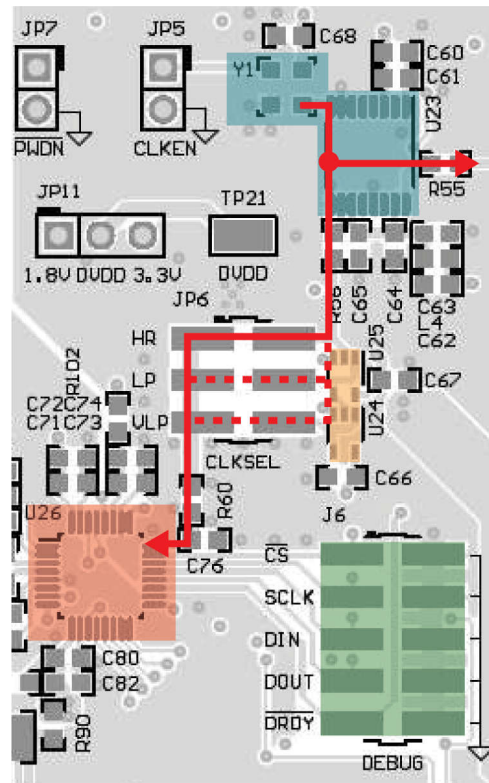
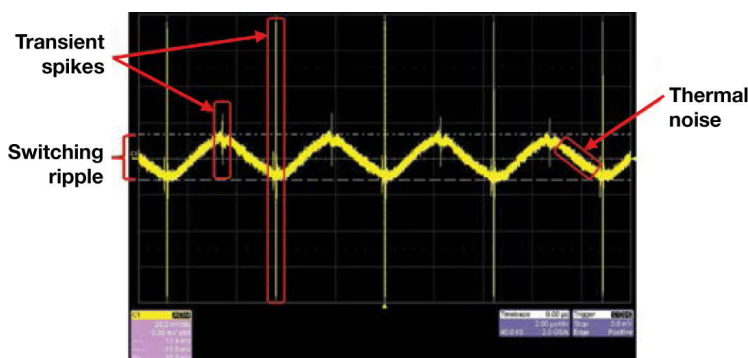

Figure 56. Example clock layout.
Figure 57. SMPS noise (transients, ripple and thermal noise).
When designing the PCB layout for your clock source, take care to keep the clock signal as clean as possible. Although it is considered a digital input, treat the clock signal as if it were another important analog signal. Minimize trace impedances, route traces away from Serial Peripheral Interface (SPI) signals and other noisy circuitry, and consider including PCB footprints for a series resistor and shunt capacitor to help handle reflections or overshoot. **Figure 56** shows an example clock layout from the ADS127L01 EVM.
The red line in Figure 57 traces the clock path from the source to the ADC (U26, highlighted in red). The clock path begins with the clock source (Y1), which is then fed into a clock fan-out buffer (U23). Both of these components are highlighted in teal in the top-right corner of Figure 56. The clock fan-out buffer generates two identical copies of the original input clock frequency: one to drive the ADC and another to drive a microcontroller (through R55).
To go to the ADC, the clock signal continues on through a small $43\text{-}\Omega$ resistor (R56) in series with the clock buffer output to help dampen reflections. The clock signal then connects to a jumper (JP6) that selects one of three different ADC clock frequencies. The other two clock frequencies are produced by two D flip-flops (U24 and U25, highlighted in orange in Figure 56). These components divide down the clock buffer output to produce the clock for the other two modes: low-power mode and very-low-power mode. All three mode choices are also synchronous to the original clock source. In Figure 56, the solid red line passes through the high-resolution mode selection.
- **The clock signal quality at the ADC input.** If the clock signal at the ADC clock input pin shows excessive overshoot and ringing, you may need to slew the clock edges further by adding or increasing the size of the small series resistor and shunt capacitor (R60 and C76 in Figure 56, respectively). Adding these components effectively applies a low-pass filter to the clock input while preserving the fundamental clock frequency. You may also notice what appear to be “shelves” or “steps” in the clock edges. This is caused by reflections of the clock signal as it travels along a trace and runs into a high-impedance input. A series resistor will help dampen these clock reflections.
While the latter may seem specific to line-voltage-powered systems, battery-powered systems may contain AC noise as well. The power-conditioning components themselves can contribute noise that impacts performance. These devices include LDOs, DC/DC converters and switched-mode power supplies (SMPSs). LDOs primarily contribute thermal noise, like all electrical components. Switching devices add large current transients on top of thermal noise. Current transients generally consist of both a lower-frequency ripple (typically in the 100-kHz to 1-MHz range) as well as higher-frequency spikes (+100 MHz) centered on the nominal output voltage. **Figure 57** shows an oscilloscope plot of switching ripple, transient spikes and thermal noise.